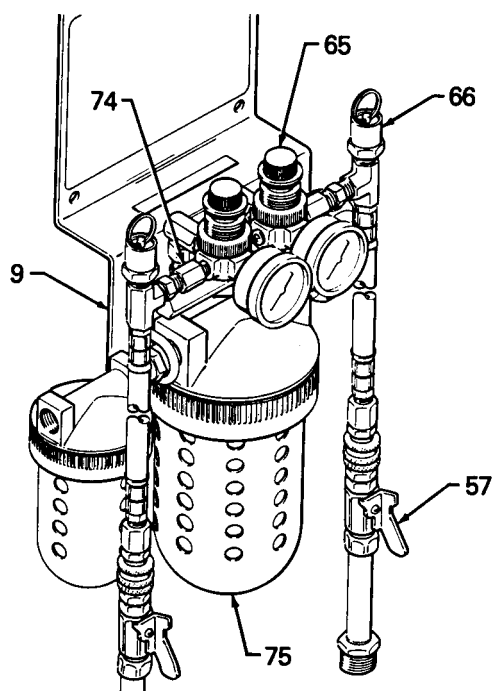

Figure 9
- 1) Set both air regulators (65) to the lowest pressure needed to provide adequate dry air to the supply drums. A setting of 2 PSI (0.14 bar) normally provides enough dry air to the drums.
- 2) Open the drum shut-off valves (57). Refer to the Typical Installation.
- 3) To lower the pressure on the gauge, turn the regulator knob counterclockwise and pull up on the pressure relief valve ring (66) until the pressure on the gauge is just below the desired setpoint. Release the ring then turn the knob to the desired pressure. See Figure 9.